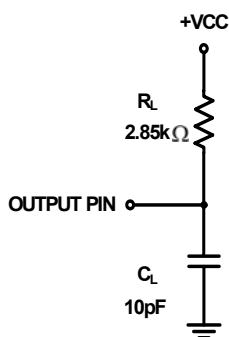

FIGURE 4. EQUIVALENT LOAD CIRCUIT
11. During characterization, t_{DJS} is measured from the release point with a 10pF load (see Figure 4) and the equivalent timing using the ADS1286 loading (3k Ω , 100pF) is calculated.